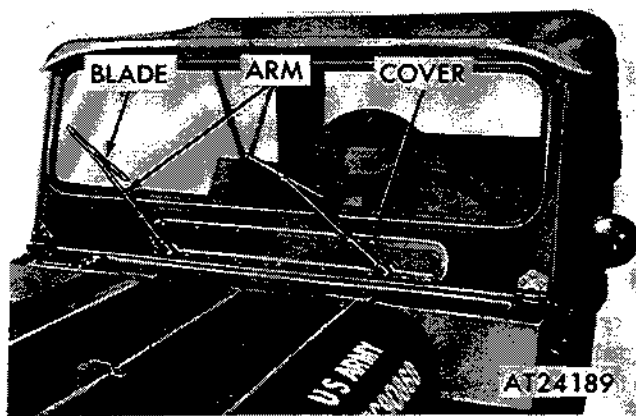

Figure 2-382. Windshield assembly on M151A2, M825, and M718A1 vehicles.
d. Windshield, Windshield Wipers and Washer (M151A2, M825, and M718A1 vehicles). The hinged one-piece glass windshield assembly (fig. 2-382) can be folded forward horizontal to the hood. The electrical motor and switch assembly (fig. 2-250) for the windshield wipers is mounted to the lower part of the windshield assembly just in front of the driver's seat. The switch (control knob) has
a. *Removal.* Lift wiper arm away from windshield so blade is completely off windshield (fig. 2-382). Grasp inner end of blade and remove nut and screw securing blade to windshield wiper arm. Remove wiper blade.
(1) Remove both wiper arm and blade assemblies (fig. 2-382).
(2) Remove 18 screws securing cover and gasket assembly (fig. 2-382).